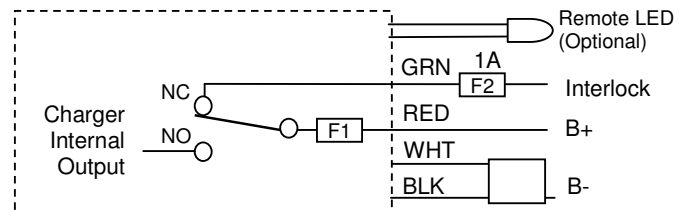

Figure 2: Charger Connections
- 1) The green wire outputs battery voltage when the charger is not plugged into AC to provide an interlock function (see Figure 2).